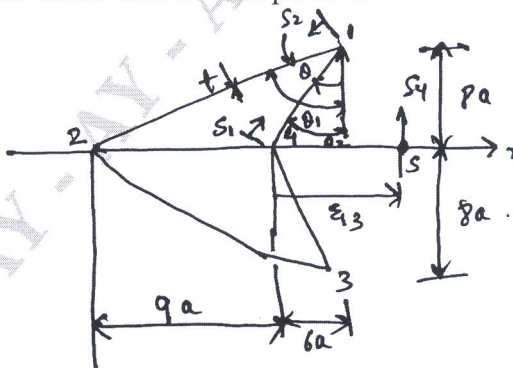

Fig.Q4(b) : Closed section beam
b. A thin-walled closed section beam has the singly symmetrical cross-section shown in Fig.Q4(b). Each wall of the section is flat and has the same thickness t and shear modulus G . Calculate the distance of the shear centre from point 4. (12 Marks)